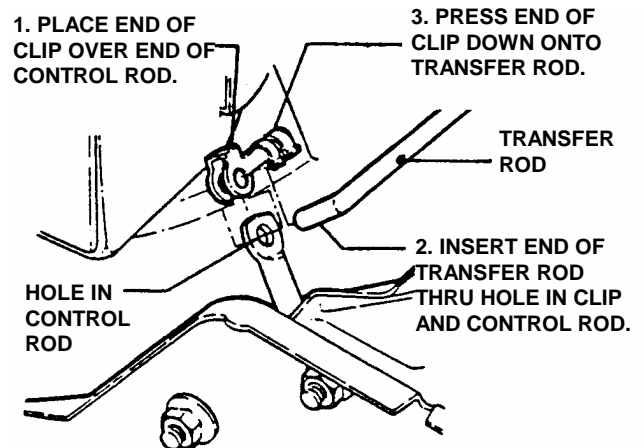
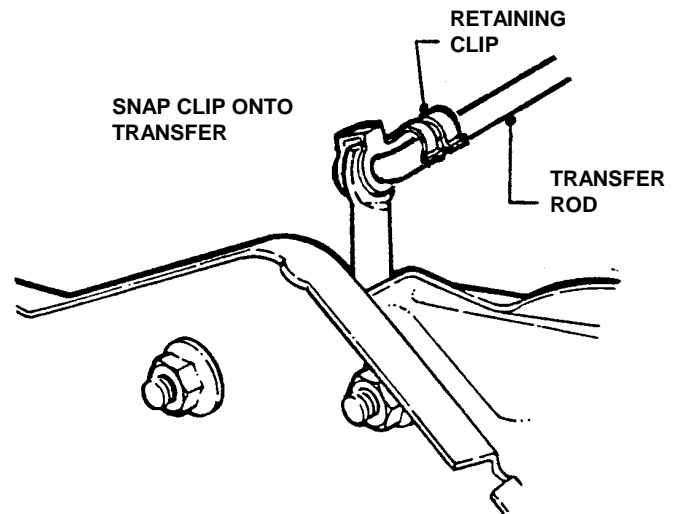

FIGURE 8
FIGURE 9
STEP 7: Insert the transfer rod into the hole in the end of the control rod and clip as shown in Figure 8. Hold transfer rod in place rotate clip over until it snaps into position onto transfer rod. See Figure 9.